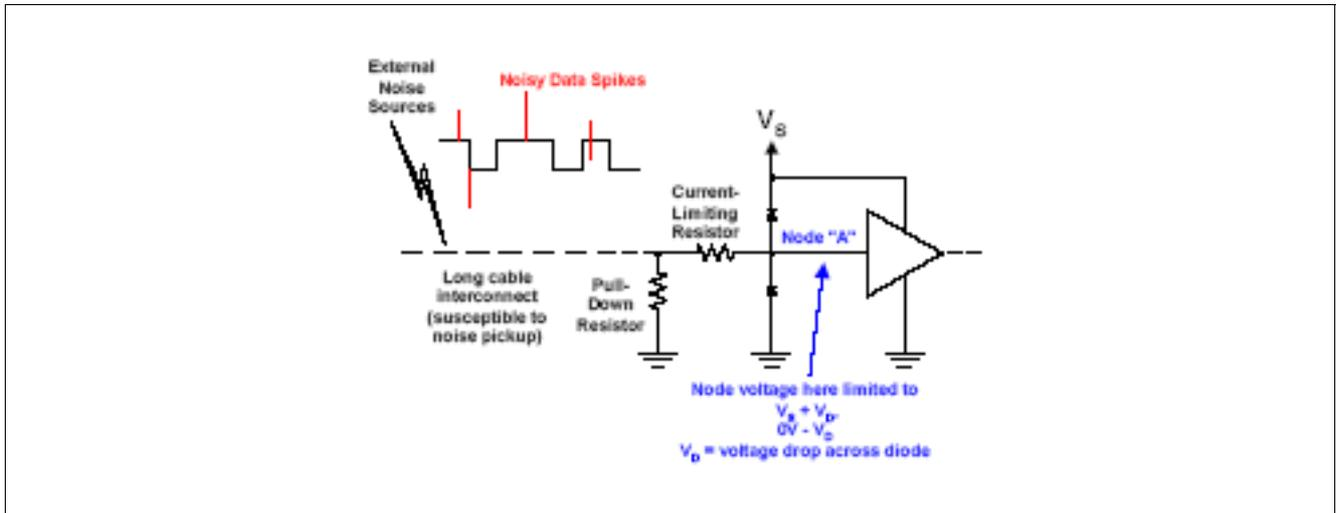

Figure 1 Diagram of a Clamping Circuit using two Schottky Diodes
**Clipping and Clamping** is the deliberate limiting of a voltage at a circuit node or supply bus. Generally, in the context of using Schottky diodes for such purposes, **clipping** is the limiting of a circuit node voltage by using the forward threshold voltage of a diode. **Clamping** is the limiting of node voltage in two directions via use of an anti-parallel pair of clipping diodes. In other words, clipping limits node voltage below a certain threshold; clamping limits node voltage within a certain “window” set by an anti-parallel diode pair. The absolute limiting voltage level(s) can be adjusted by biasing the diode(s) with an offset voltage via use of pull-up or pull-down circuits. Please refer to Figure 1. Note that if the input signal voltage rises above the supply voltage due to “noise spikes”, the upper diode will turn on, dumping current into the  $V_S$  node, limiting the voltage at Node “A” to 1 diode drop above the supply voltage. Similarly, if a negative-going transient on the data stream dips more than 1 diode drop below ground, the lower diode will begin to conduct, limiting Node “A” voltage to one diode drop below ground. In summary, the “window” of voltages allowed at Node A is limited to a maximum of  $V_S + V_D$ , and a minimum of  $-V_D$  (one diode drop below ground). This assumes that the diodes behave as perfect switches. In reality, non-ideal diode properties, including the current-handling capability of the diode used, play a major role in how well such clipping and clamping circuits function in actual practice. This will be discussed in a later section. **Note that the Schottky diodes offered in the Series-Pair configuration, in SOT-23 or SOT-323 outlines, offer a single-package solution for clamping circuits such as the circuit shown in Figure 1.** (Please refer to Table 1 and Table 2 for a quick overview of diode types and configurations discussed in this applications note).
In looking at the circuit shown in Figure 1, one can envision several desired properties for the diodes used:
A **low forward voltage** at all current levels ensures that the maximum / minimum voltage seen by the system or component being protected by the clipping or clamping circuit is only slightly above or slightly below the reference voltages used. For example, in the particular case shown in Figure 1, the clamping levels are set at a maximum by the use of the supply voltage  $V_S$  as one reference, and at a minimum by using ground as the other reference.